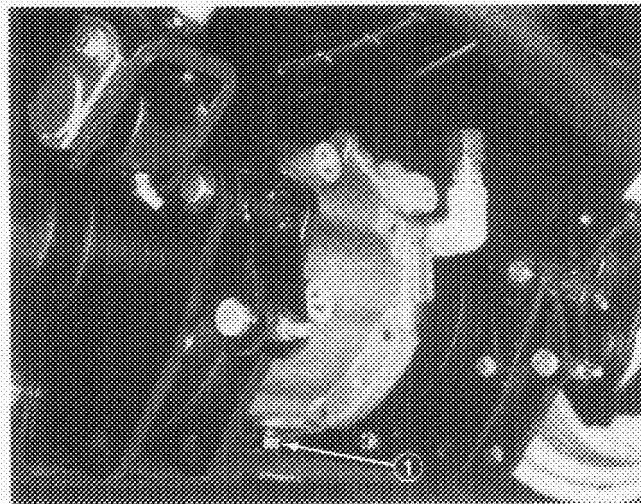

Figure 49
(Fig. 49)
2. Clean area around the drain plug (Fig. 49).